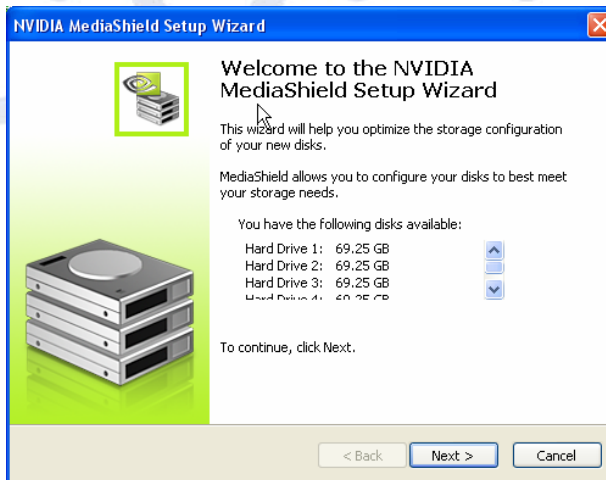

Figure 3. MediaShield Welcome Screen
2. On the wizard's **Welcome** screen, note the number of disks available for configuration (Figure 3).